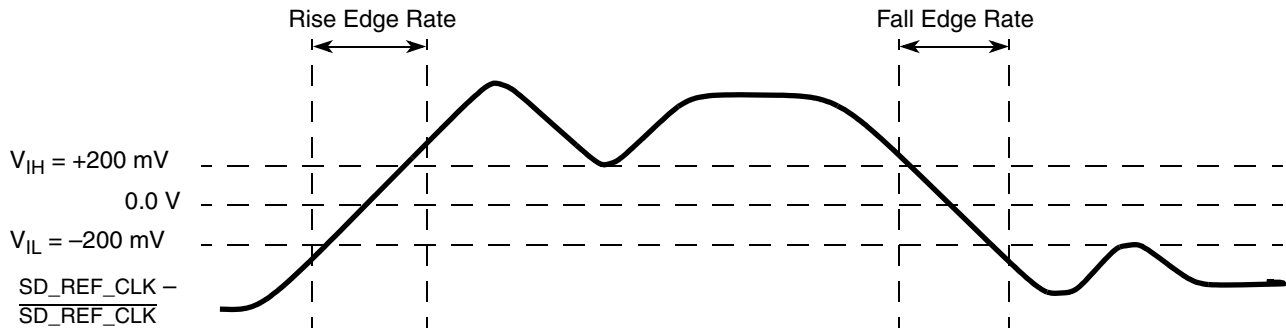

Figure 55. Differential Measurement Points for Rise and Fall Time
- Measured from -200 mV to $+200\text{ mV}$ on the differential waveform (derived from SD_REF_CLK minus $\overline{\text{SD_REF_CLK}}$). The signal must be monotonic through the measurement region for rise and fall time. The 400 mV measurement window is centered on the differential zero crossing. See Figure 55.
Figure 55 shows the differential measurement points for rise and fall time.